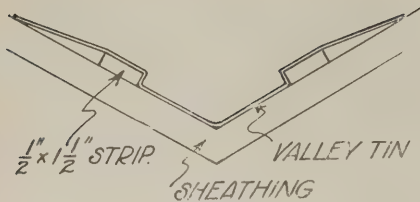

Fig. 3
C. W. J. writes: "I have made a detail sketch, see Fig. 3, showing a simple way as well as an effective way of stopping this trouble. I enjoy many of the questions and answers in this department of your publication, and have thought of joining in several times, and possibly will in the future." (We take that last sentence *cum grano salis* mixed with the hope that he will).